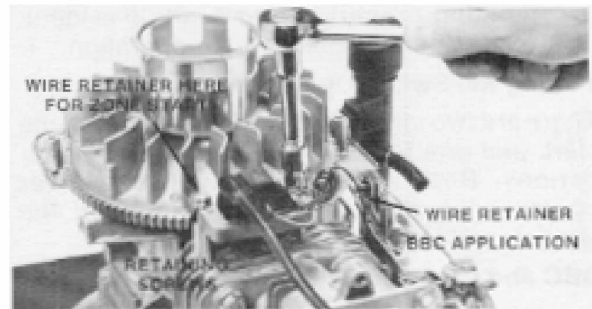

Figure 3-19
4. The ignition coil may now be removed from its mounting bosses. Be sure to unplug the kill wire. See Fig. 3-19.
2. Install the ignition coil. Mount a wire retainer on either the right or left side of the coil, depending on the brake system used. Refer to Fig. 3-19.